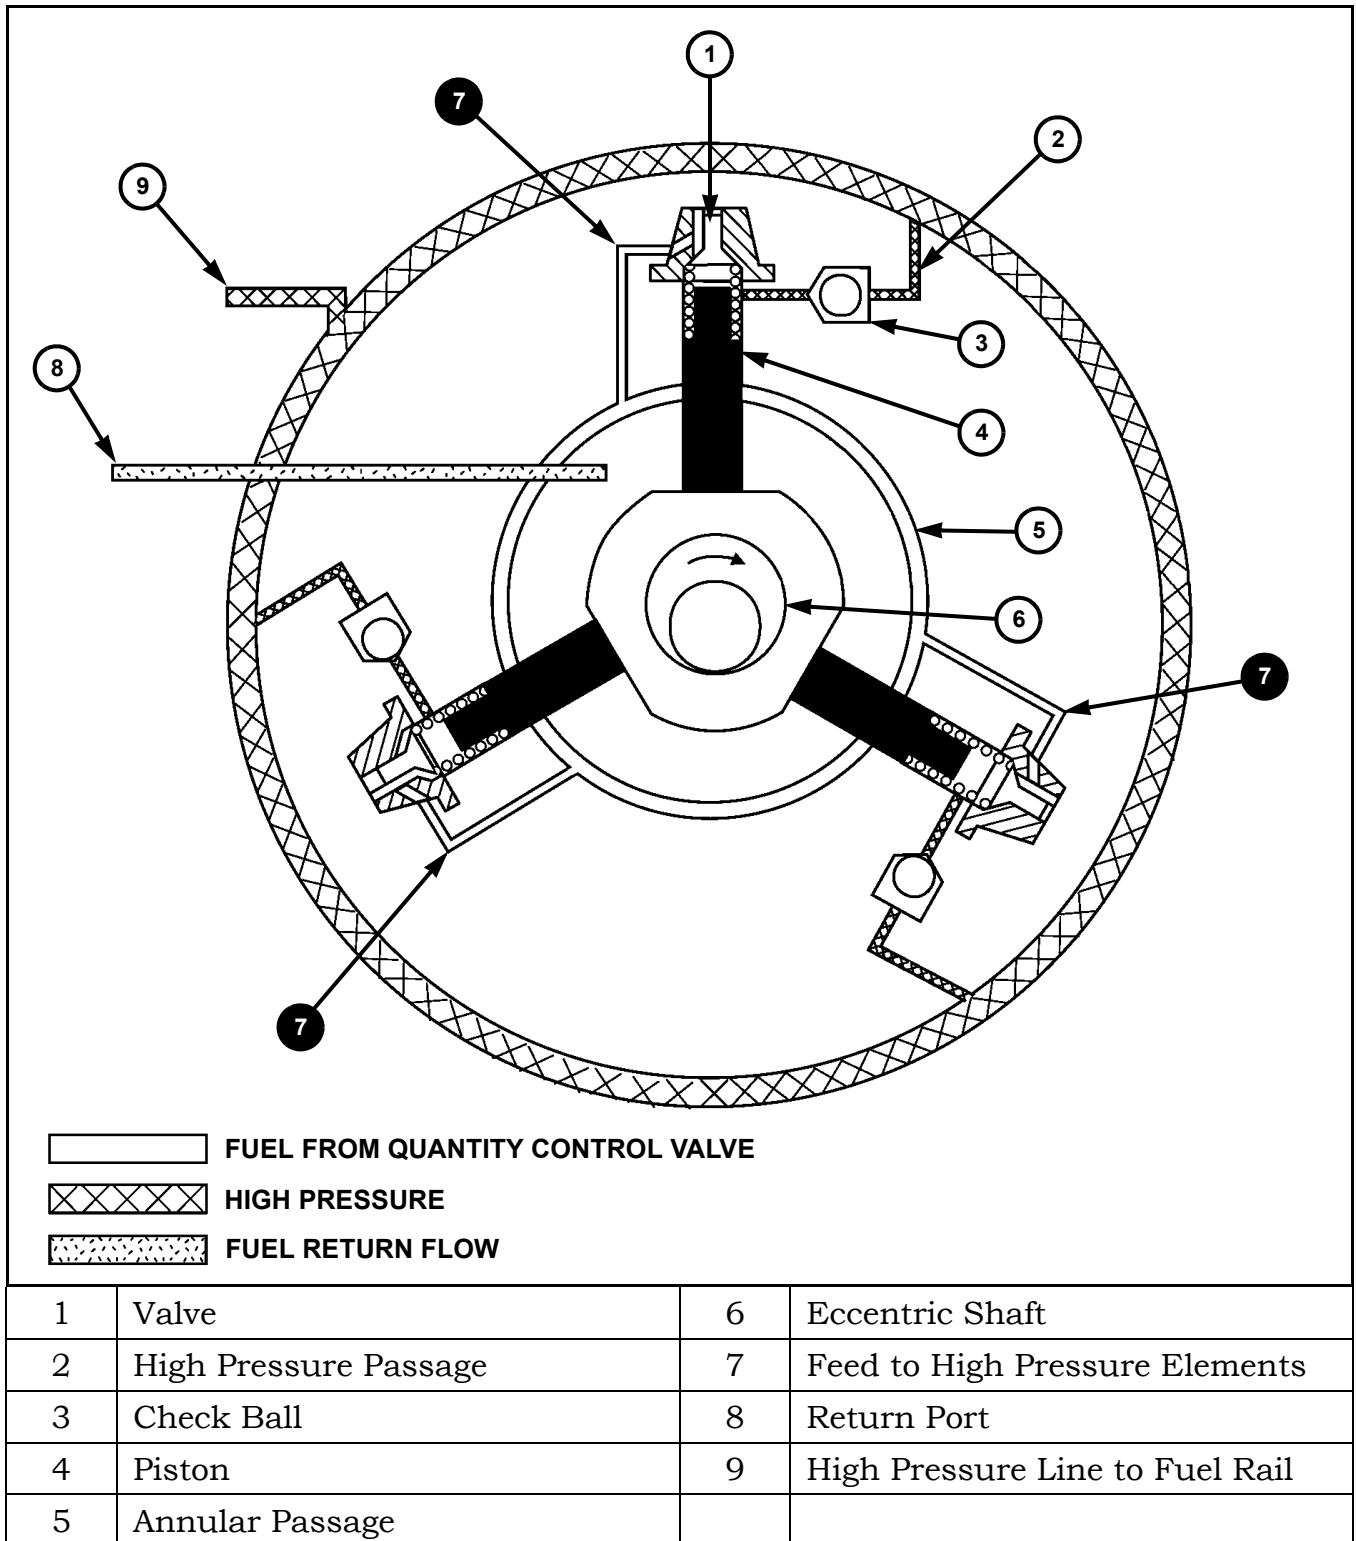

Figure 38 Low Pressure Side, Pump Elements
Refer to Figure 38 to follow the fuel flow into the high pressure pump. Fuel from the quantity control valve flows along the annular passage (5) through the feed ports (7) to the three pump elements of the high pressure pump.